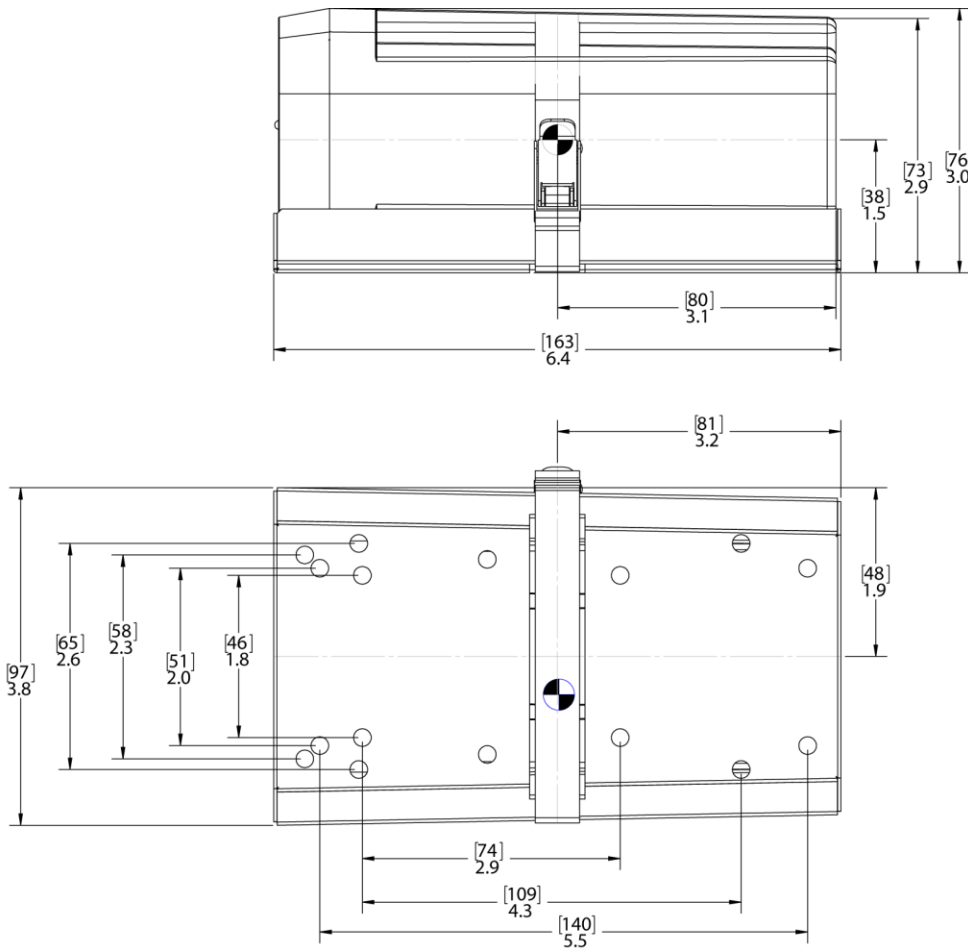
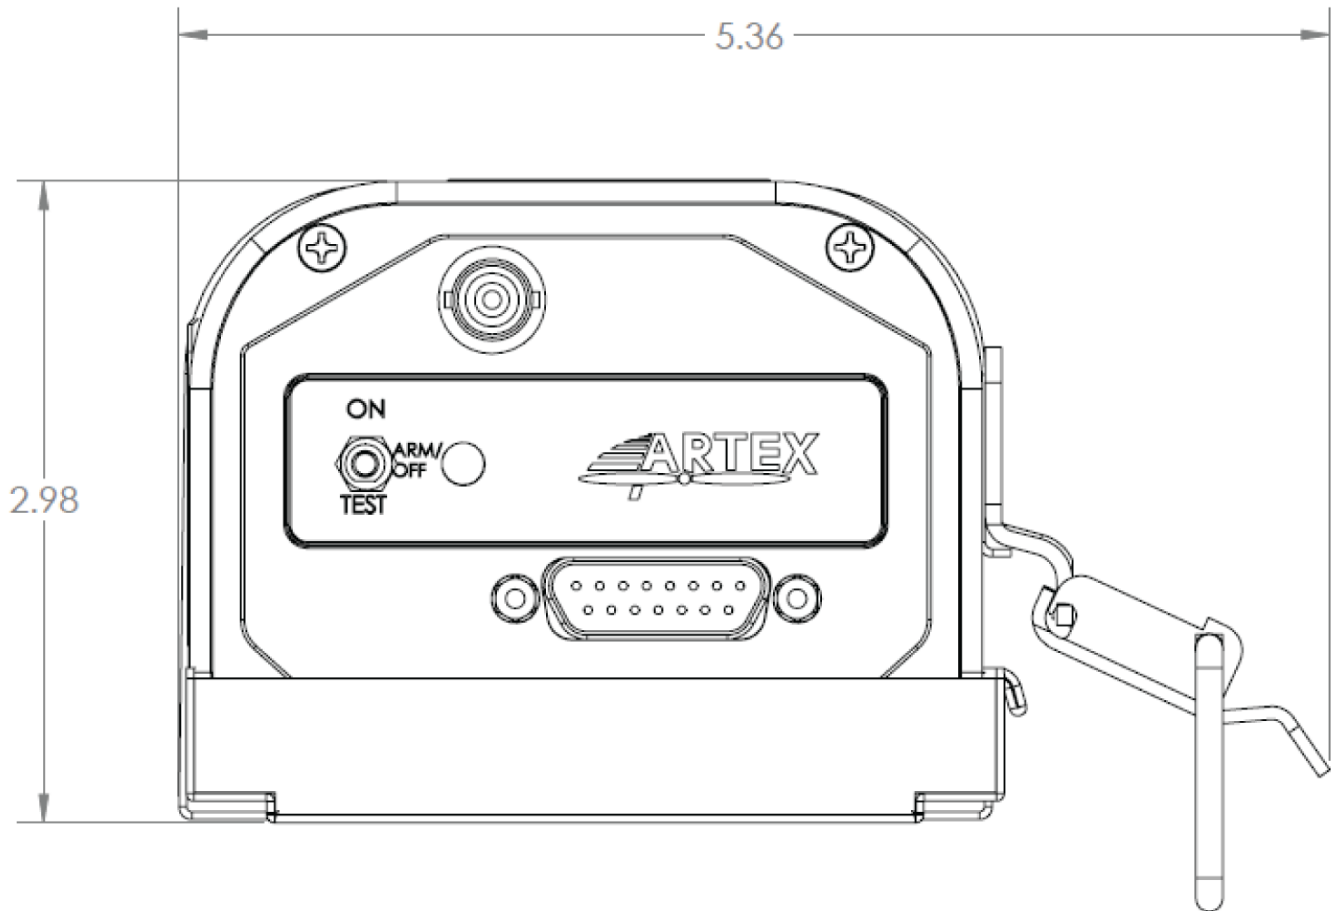

Figure 11 ARTEX ELT 345 Outline & Dimensions
Figure 12 ELT 345 Metal Strap Minimum Clearance Dimensions
- 1) Select a suitable location for the ELT mounting tray (see Figure 11 ARTEX ELT 345 Outline & Dimensions on page 40 and Figure 12 ELT 345 Metal Strap Minimum Clearance Dimensions above).
- 4) Mark and drill the four mounting holes with a #19 or 4.25 mm drill. Refer to Figure 11 on page 40 for the mounting hole pattern.